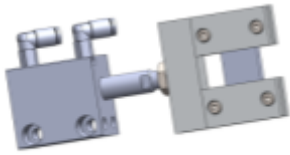

Figure 7
Step 3: Loosen the 2 screws using an Allen spanner and an open-end spanner and remove the cutting device. (See figure 7)